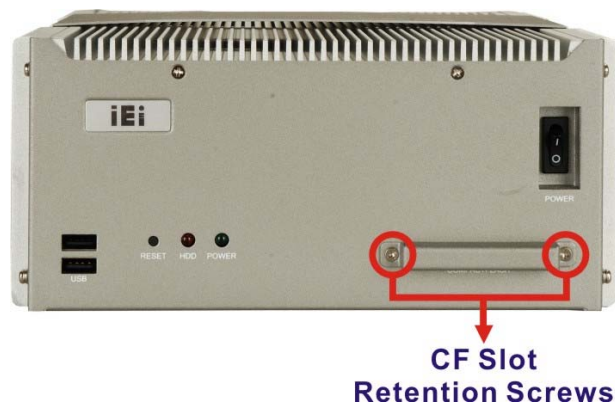

Figure 4-1: CF Slot Cover Retention Screws
Step 2: Remove the two CF slot cover retention screws from the front panel (Figure 4-1).